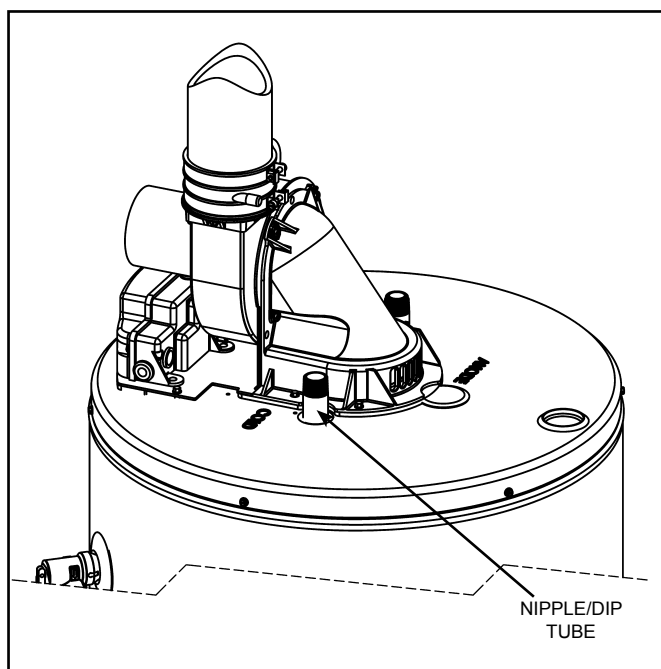

Figure 5
6. Remove the inlet water piping connected to the cold inlet of the water heater (see Figures 5 & 6). Some installations will have a union connection, others will have the supply piping soldered to an adapter that connects to the nipple on the water heater. Using the pipe wrench remove the piping from the top of the tank.